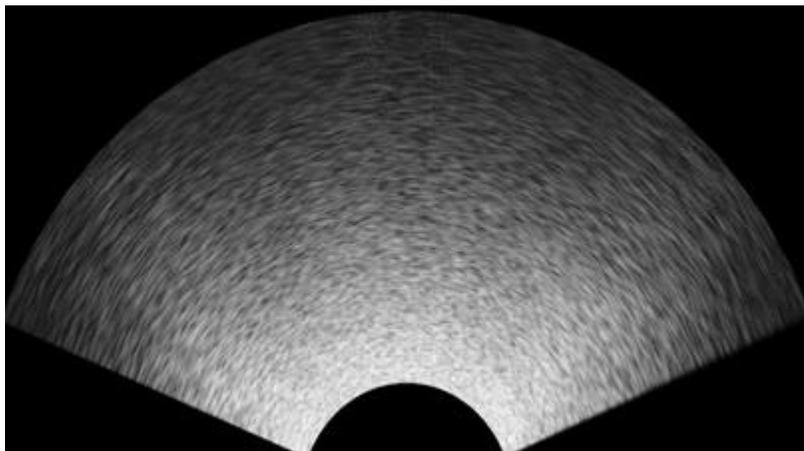

Figure 147: 2D Mode with the EV9C Transducer and Tissue Mimicking Phantom
5. Check that the image looks similar to the image shown in Figure 147 after adjusting settings as follows: